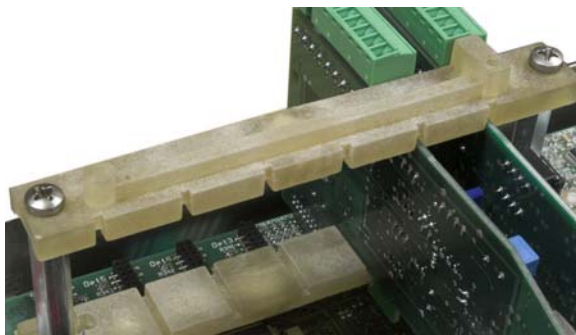

Figure 3-38: Upper Card Guide
7. Remove the two screws attaching the upper card guide, shown in Figure 3-38, and lift the guide from its stand-offs.
1. Loosen and remove the screws holding the upper card guide (Figure 3-38) in place on its stand-offs.
5. Replace the upper card guide, taking care to position the upper edge of the option board/s in the slot/s in the upper guide (see Figure 3-38).